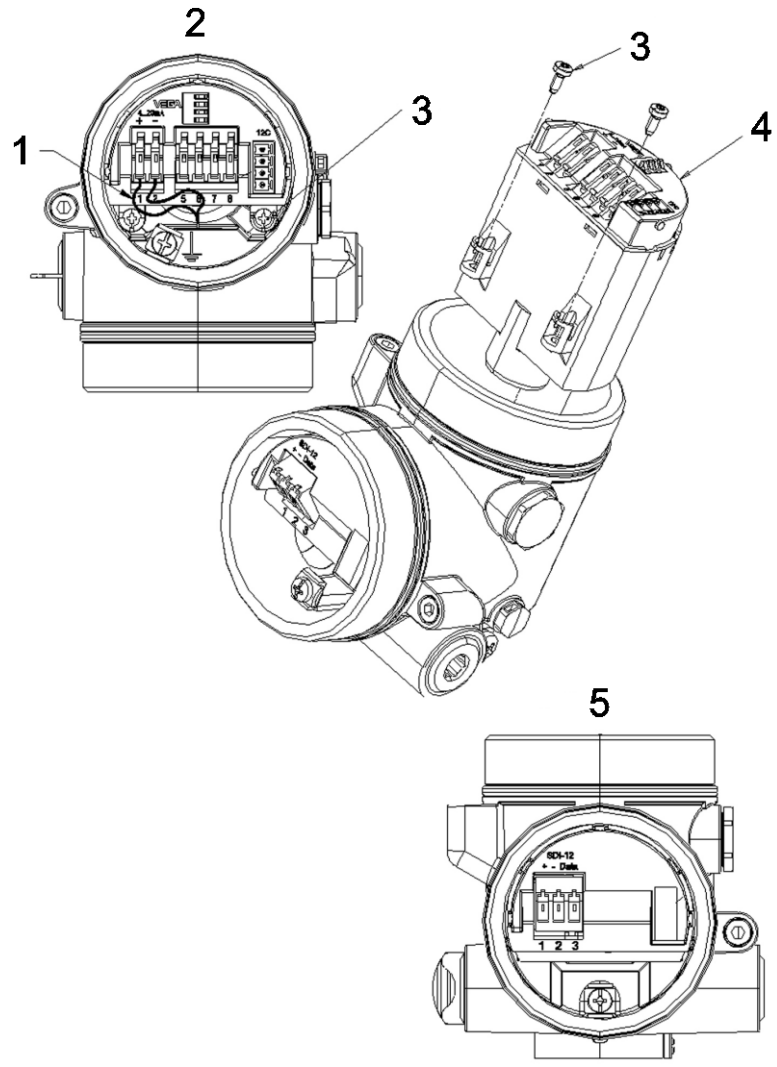

FIGURE 9-1. Changing the electronics (see TABLE 9-1 for label descriptions)
The electronics module is replaced by doing the following steps (see FIGURE 9-1 and TABLE 9-1):
1. Unscrew the housing cap (cap is not shown in FIGURE 9-1).
3. Loosen the two screws securing the electronics to the housing (3 in FIGURE 9-1). These screws are captive screws and will remain nested with the electronics.
4. Gently remove the electronics from the housing (4 in FIGURE 9-1).
6. Tighten the two screws to secure the electronics to the housing (3 in FIGURE 9-1).